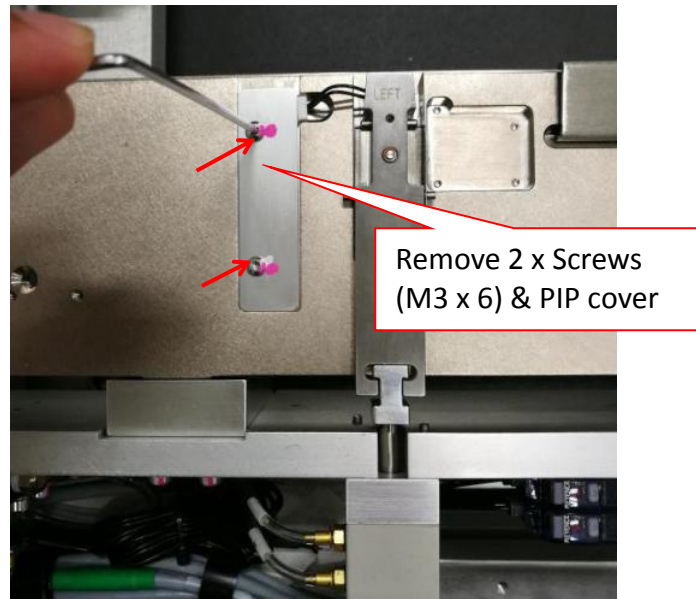

Figure 4 PIP Cover Removal
5. Remove 2 x screws (M3 x 6) & PIP Cover as shown in Figure 4.